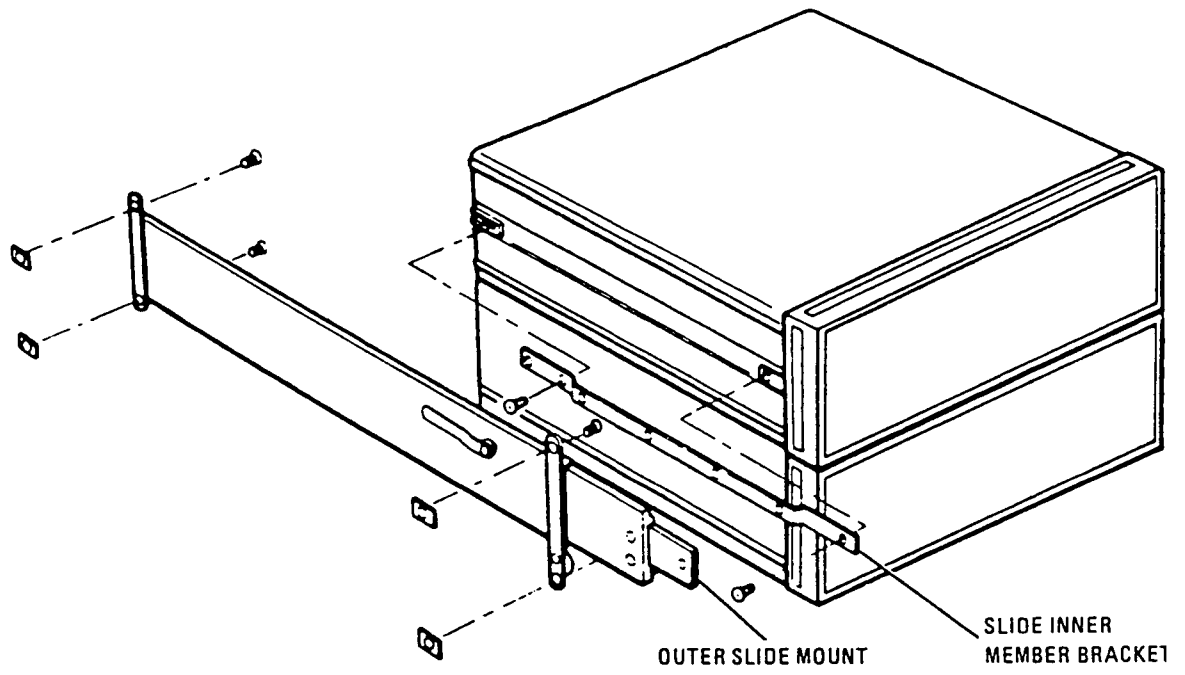

FIGURE 3. ATTACHING RACK MOUNT SLIDES
5. Attach one slide inner member bracket to each side of the instrument using two M5x0.8x10 pan-head screws per side (see Figure 3).